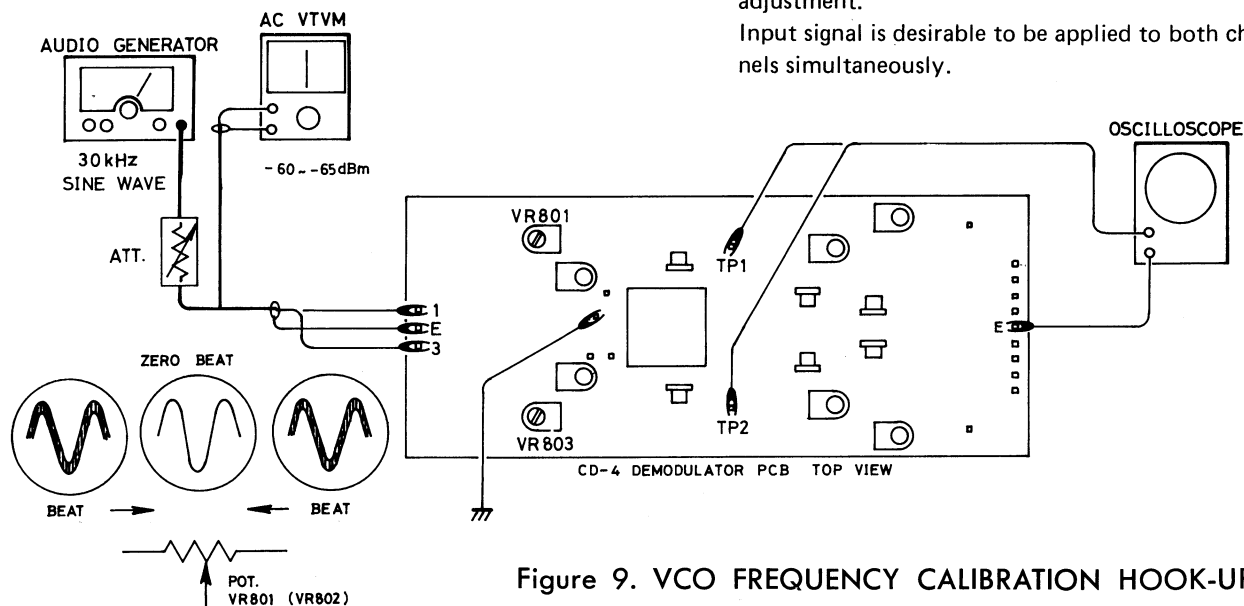

Figure 9. VCO FREQUENCY CALIBRATION HOOK-UP
- b. Connect oscilloscope to test point TP1 (R-ch. TP2) and adjust for zero beat by rotating VR801(R-ch. 803) observing beats on oscilloscope. (See Figure 9) TPM is required to have been grounded before this adjustment.